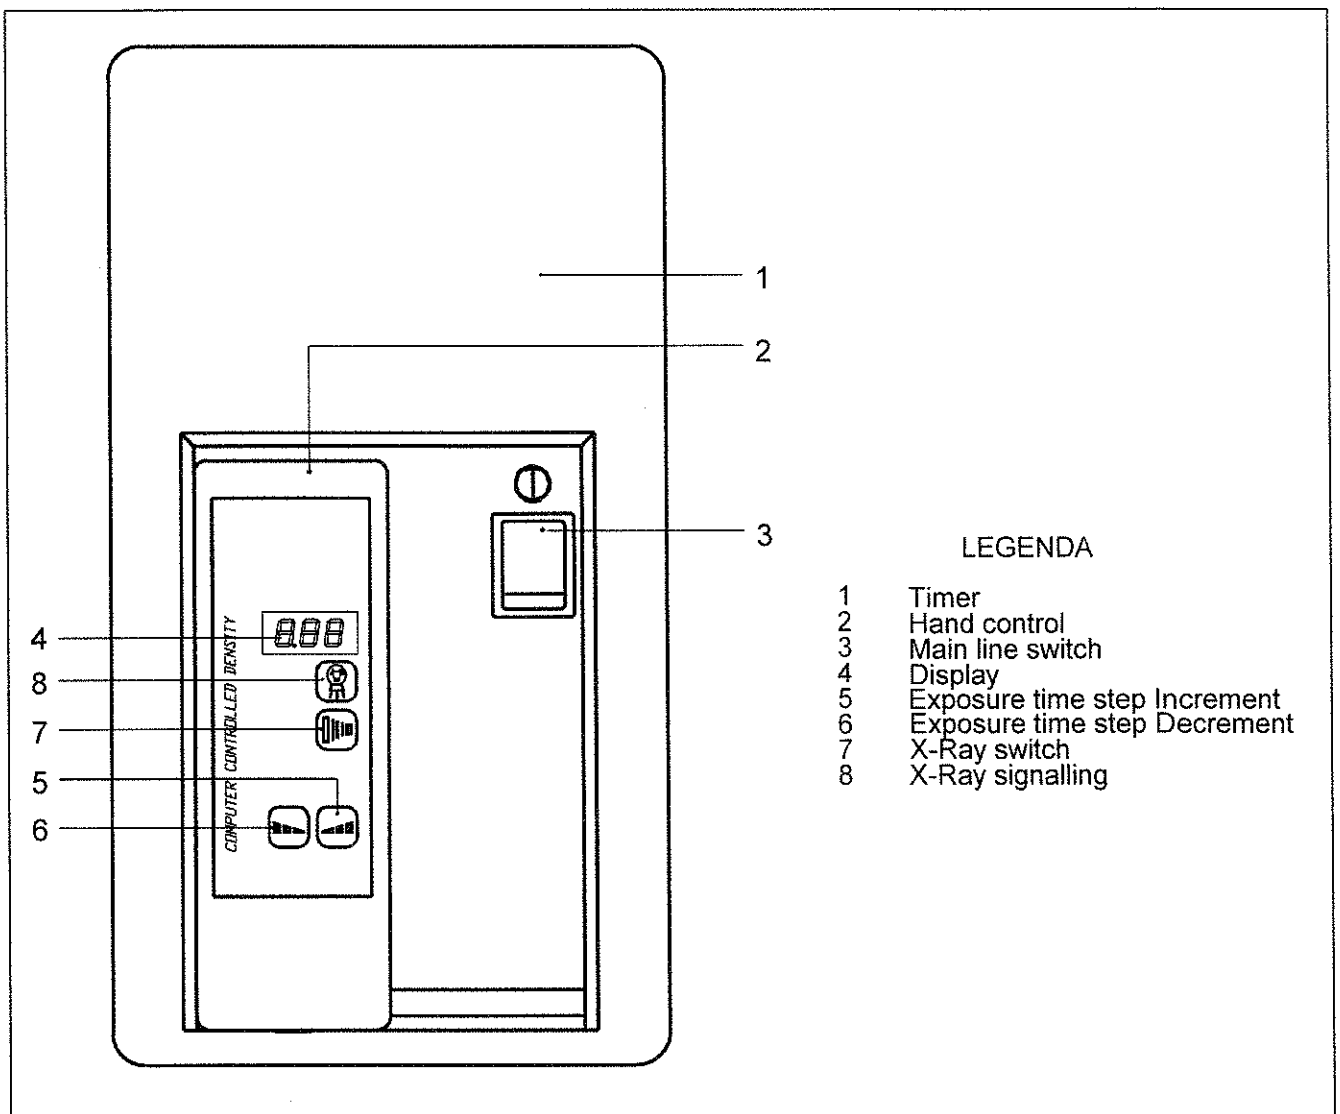

Figure 3 Aztech 65 Timer
- a) Depress the start up switch (“3” on Figure 3 on Page 17) placed in the upper front part of the cover; this turn on the self check function indicated by glowing of the remote hand control LED’s showing “888”.
- a) If not already on, depress the start up switch “3” (Figure 3 on Page 17) to power on the timer. When the system is powered, after a short self check the system shows the exposure time selected.
- c) The exposure is initiated by depressing and holding the emission button also called the X-Ray switch “7” (Figure 3 on Page 17).